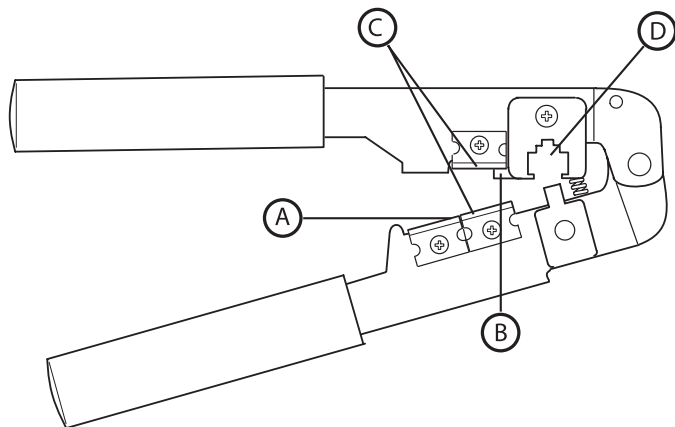

Figure 1
1. Using the cutter blade on the crimping tool (labeled A, in figure 1), cut the CA cable so the cut is clean and at a 90-degree angle to the side of the cable.
2. Fully insert one end of the CA cable between the stripping blades (labeled C, in figure 1) until the end of the cable hits the stop (labeled B, in figure 1).
6. Push a RJ-12 connector into the plug holder on the crimping tool (labeled D, in figure 1) until the release tab on the plug locks into position.